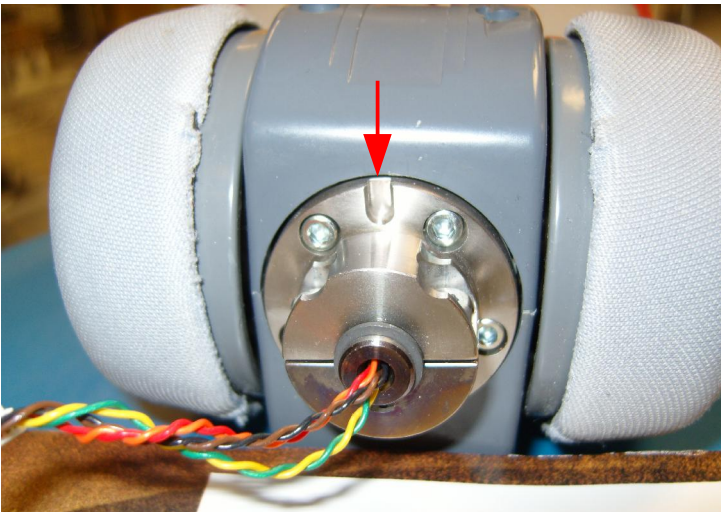

Fig. 2
3. Position the wrist rotation joint, so that the key-way is facing upwards (Fig. 2)